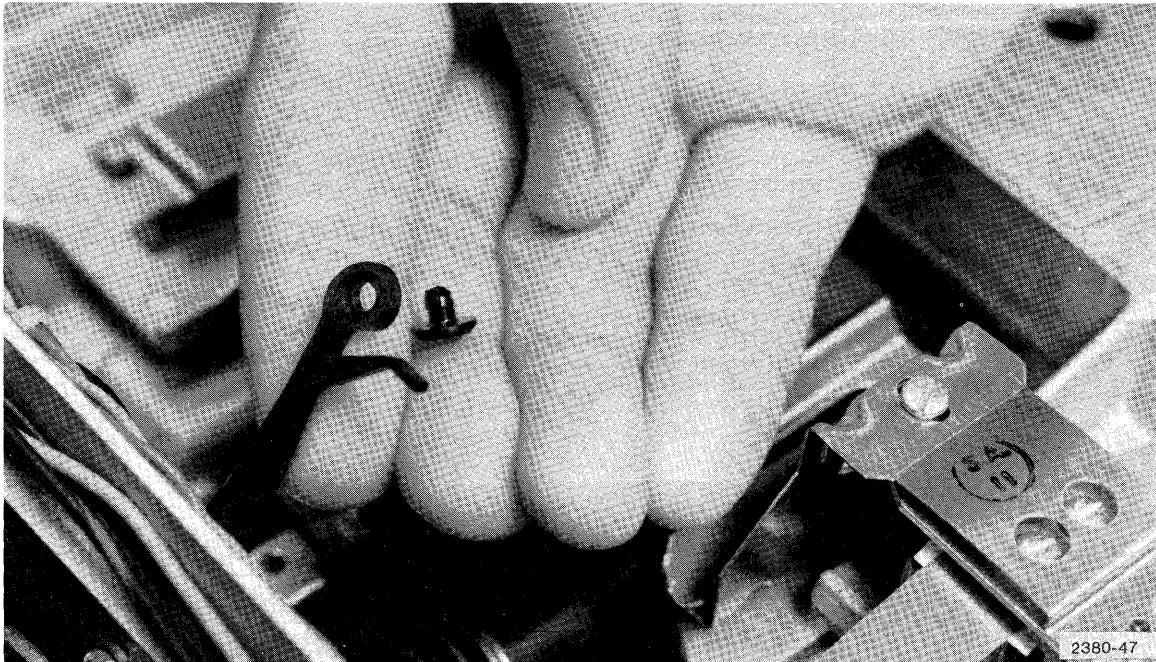

Figure 4-8. Inspecting New Load Button.
3. Check the felt on the new load button to see that it is firmly attached and in good condition (Figure 4-8).